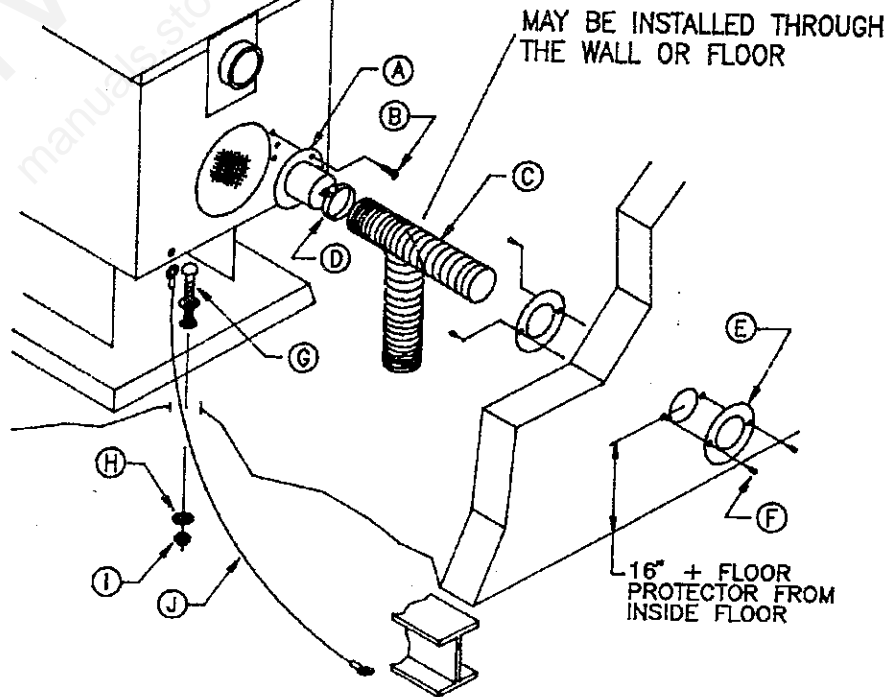

FIG. 9
- C. Outside air must be provided. (See FIG. 9)